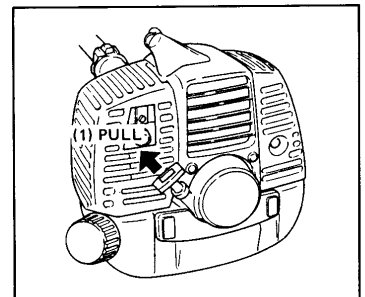

Fig. 12
4. To start the AST-7000 with the recoil starter follow starting procedure number 1 . and turn the switch to the "On" position then pull the recoil starter handle briskly. (See Fig. 12)